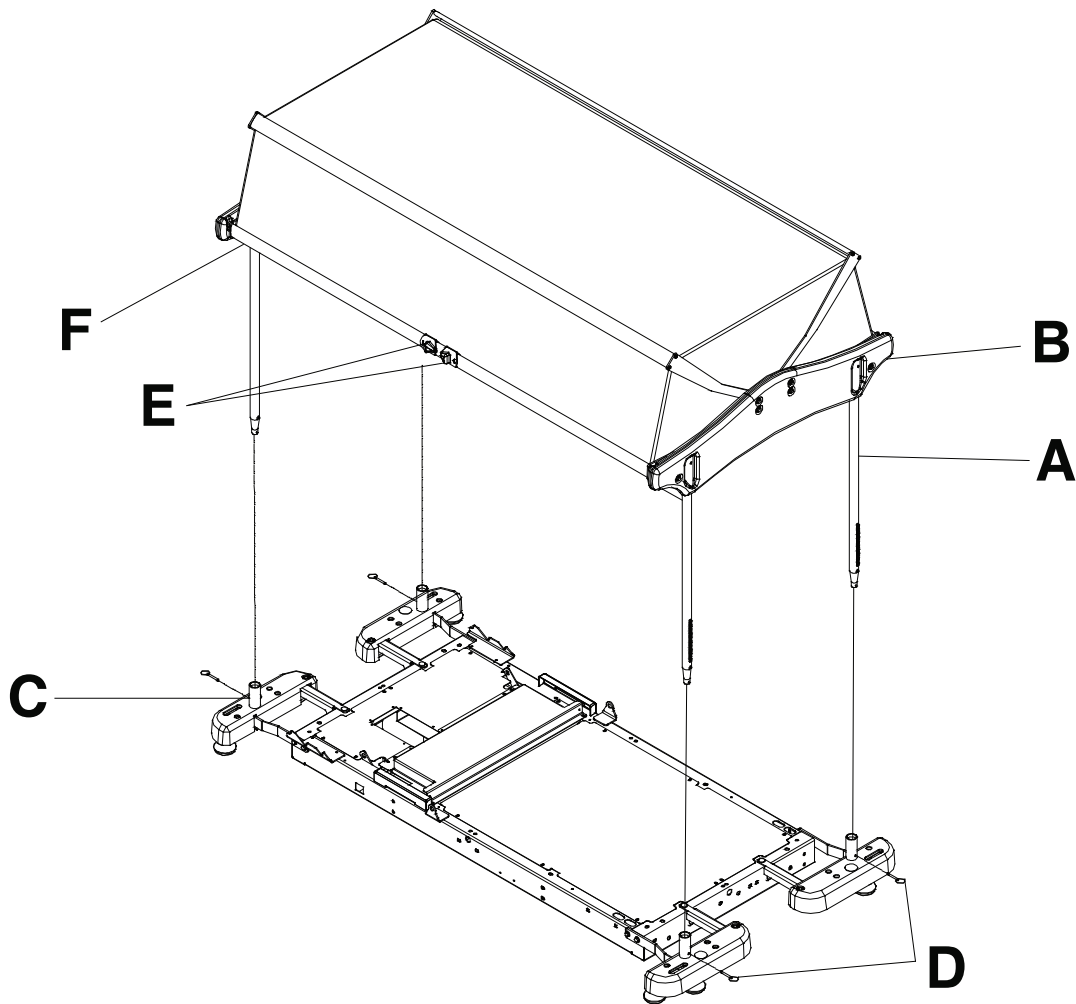

Figure 17 – Retracting protective top
1. Press the lock pin located on the top section of each post (A) and insert the post into the slot of the plastic structure (B) (Figure 17). Repeat for the other posts.
2. Install the four posts in the accessory bracket sockets (C) (Figure 17).
3. Using a 9/16" combination wrench, lock the posts in the accessory bracket sockets with the four hitch pins (D) (Figure 17).
1. To open the protective top, squeeze the two release knobs (E) and lift the lower rail (F) to the desired position (Figure 17).
2. To close the protective top, grasp the lower rail (F) and lower it until it locks into position (Figure 17).